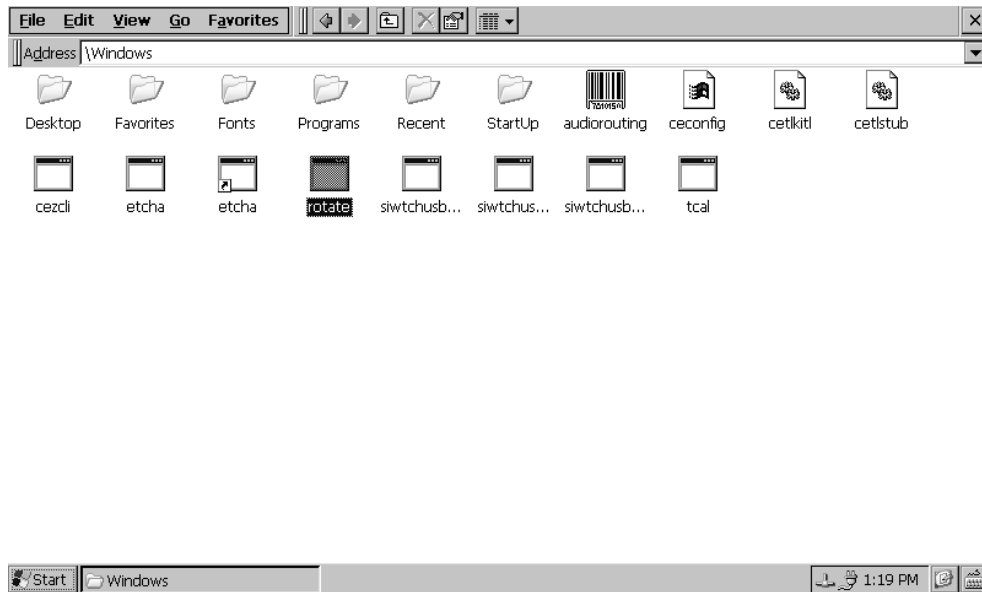

Figure 4-11 Rotate Icon
3. Locate the Rotate icon and double-click on it (Figure 4-11).